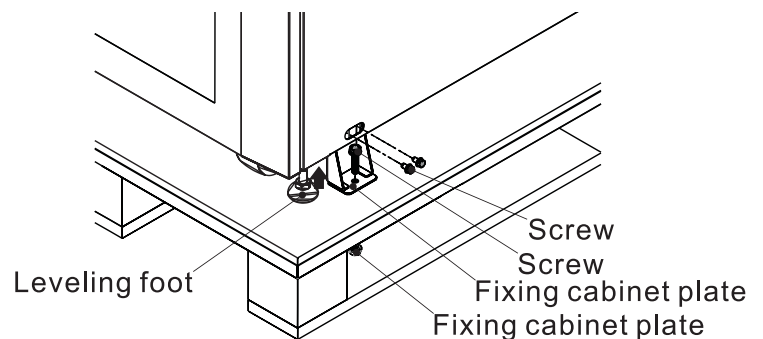

Figure 4.4
3. Remove the four fixing plates (Figure 4.4) and loosen the levelling feet by rotating them counterclockwise, raising them above the level of the casters. The UPS cabinet may now be rolled off the pallet and down the ramp. At least three people should be present to move the UPS to the installation area, two to support either side of the UPS and a third to guide the UPS into its final location.